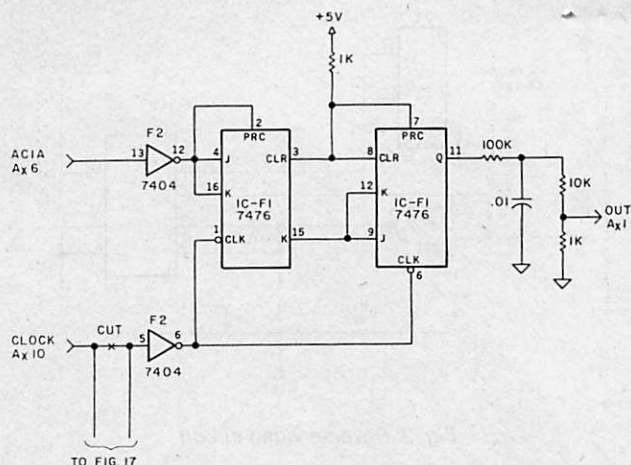

Fig. 5. Cassette transmit circuit.
The transmitter circuit (Fig. 5) consists of a 7476 IC (dual JK flip-flop) wired to divide the clock by two or divide by four. To produce the 1200 Hz and 2400 Hz, the clock frequency must be
baud rate selector switch (see Fig. 5, part 1). This inhibits triggering; the 74123 Q and 7474 clear pins go high; and the circuit divides normally. The 19200 Hz clock is divided by four and fed to the 7404 inverter (Fig. 5), where it is then converted to 2400 Hz or 1200 Hz by the operation of the 7476.
the square wave to provide a sine wave to the tape recorder (see Fig. 5).
12. Run a wire from the auxiliary plug, pin 11, to the 1200 baud pin of the B part of the baud select switch (see Fig. 5, part 1).